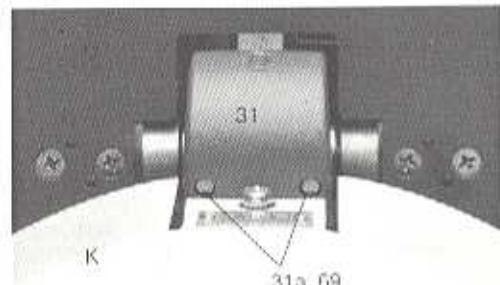

Fig. 5
d) Hold the furnace head as shown in Fig. 4 and fit the mounting lug (31), through the apertures (31a), over the hinge pins (73) (see Fig. 5). Keeping the furnace head level, push down in a parallel direction until it rests, with the sealing ring (35) evenly placed on the sealing rim (69) of the furnace base.